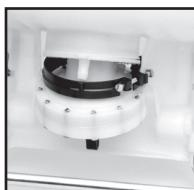

Figure 2
- With unit laying on its back with pump assembly facing you, remove the pump rod (C). Loosen hose clamp and remove pressure hose (D). Next, loosen the clamp at the base of the sprayer (E). Figure 2.